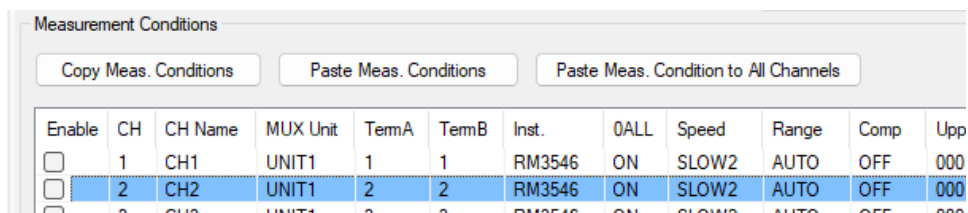

Figure 2-17
- 3. Select the channel to which you wish to paste the measurement conditions and click the “Paste Meas. Conditions” button. (See Figure 2-17.)